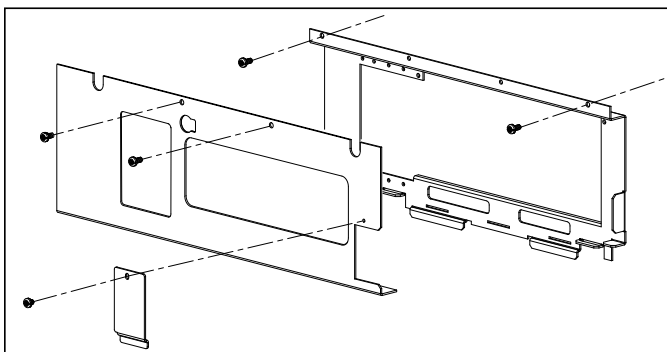

Figure 6. PureLink Power Center Bezel Plate, 08/09 Models or Later
3. Remove the top two (2) middle screws that secure the bezel cover plate to the power center. Remove the cover plate. See Figure 6.
6. Remove the two (2) screws that secure the AquaLink RS PCB then remove the PCB.
7. Remove the top two (2) outer screws and remove the support plate by pulling it up and out to detach it from the power center.